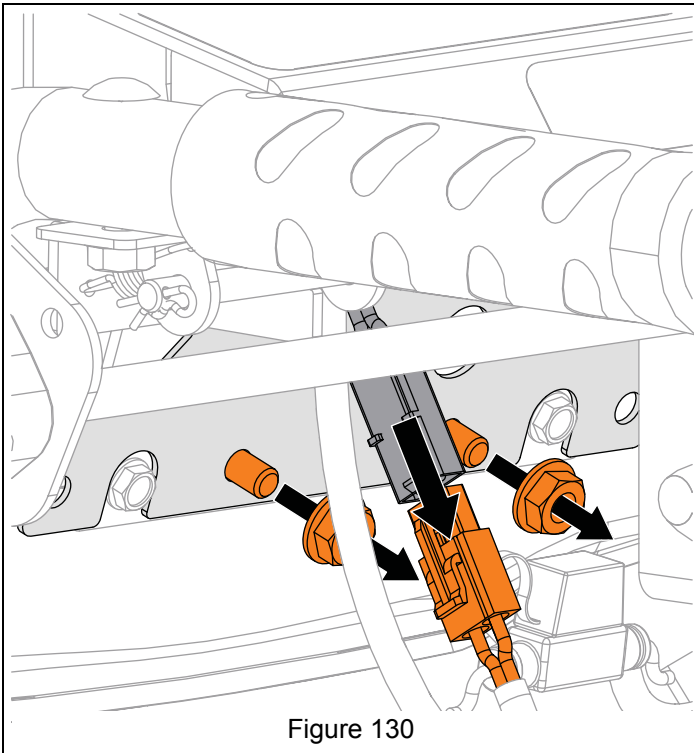

Figure 130
6. Turn bulb one-eighth turn counterclockwise and remove from headlight bezel. See Figure 130.